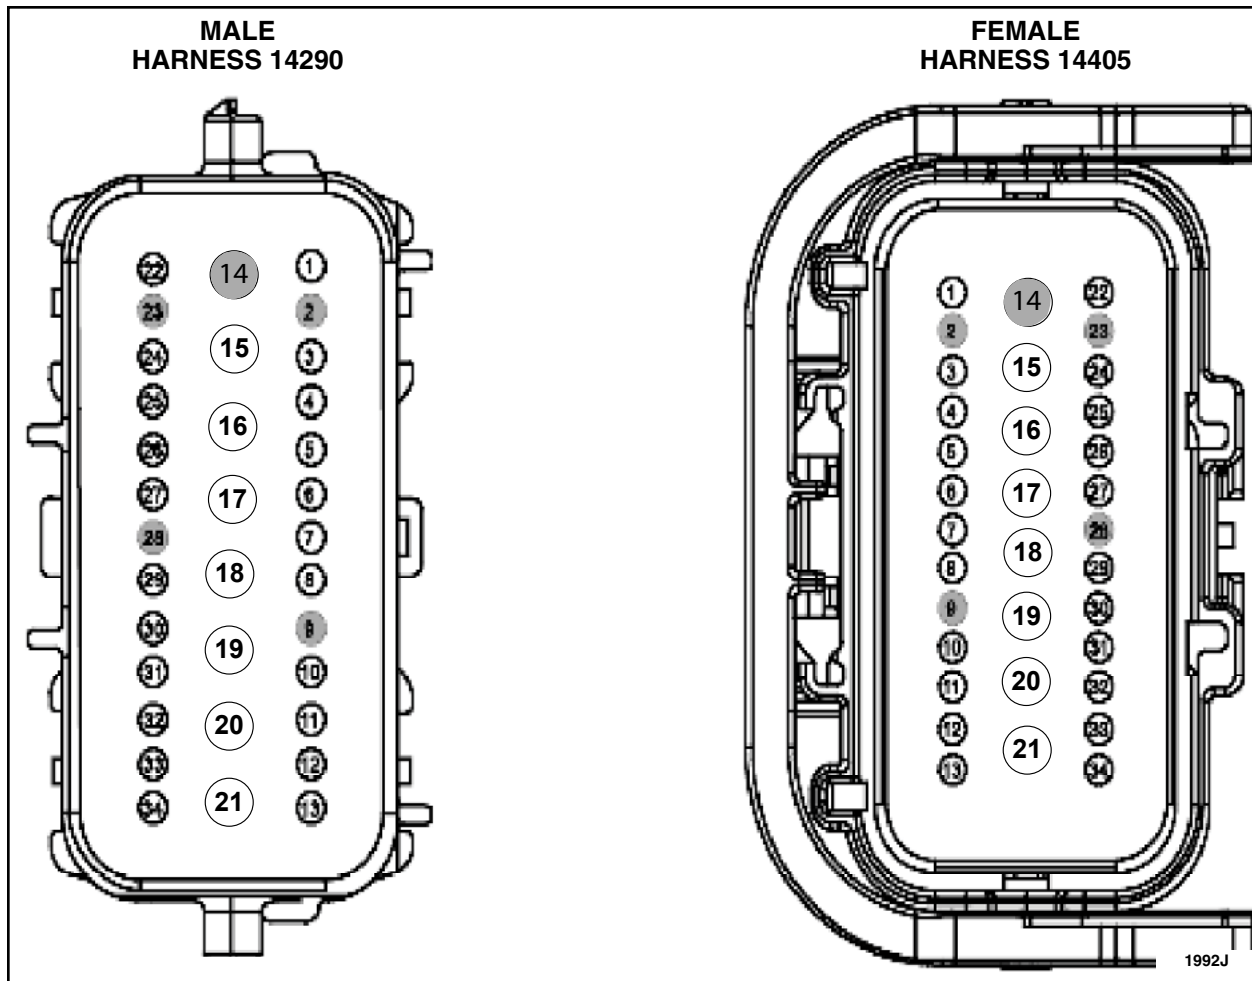
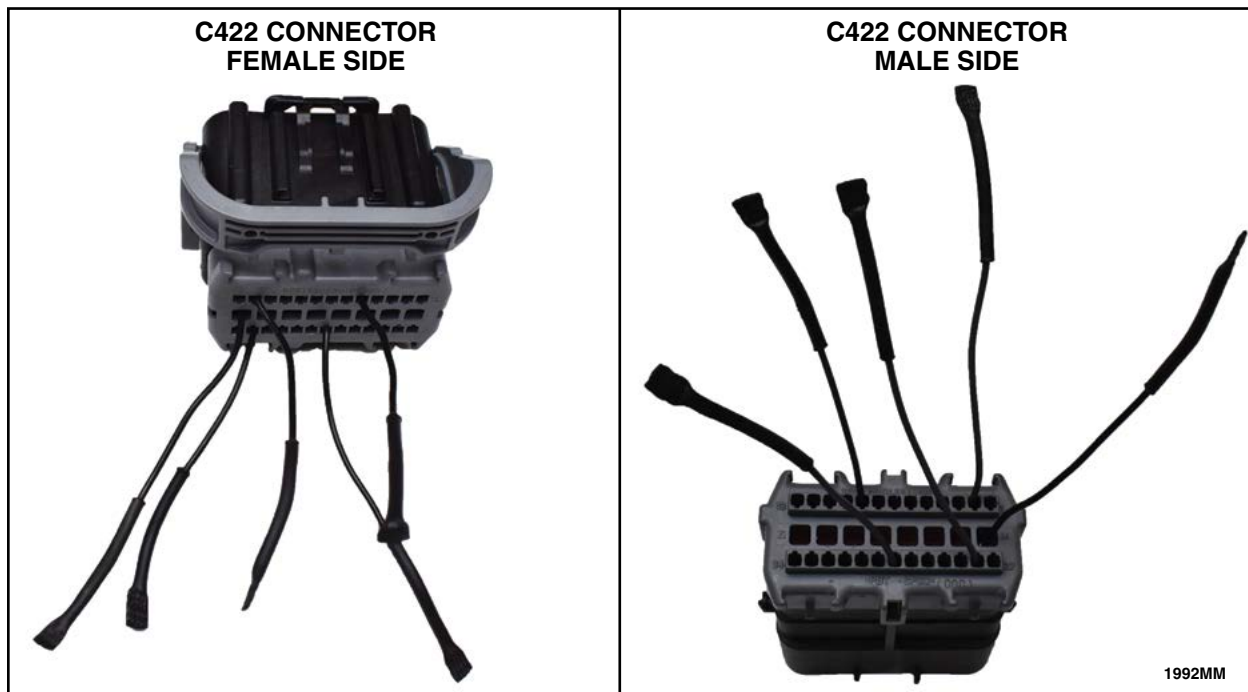

FIGURE 12
FIGURE 21
14. At connector C422, using your fingers pull on the remaining wires in the center row of terminals wires (cavities 14-19 and 21) on both male and female connector sides, checking for any terminals that may be push out of the connector hard shell. See Figures 12, 13 and 14.
- Using Rotunda™ Terminal Release Tool (NUD900-001), release and remove all pin terminals from the *new* C422 pigtail connector **Except** for cavities 2, 9, 14, 23 and 28. See Figures 23-25 and/or 28-30. Refer to Figures 12 and 13 for connector details.
- Measure and cut all five (5) wires, still remaining in the new pigtail connector, to 3 in. (76.2mm) in length.
- Position a heat shrink tube over the end of all five (5) wires. See Figure 21.
- One wire at a time, use a suitable heat gun, such as Rotunda Shielded Flameless Heat Gun with Heat Deflector (NAIAT-R5902), that is equipped with a shrink tubing attachment, to heat the heat shrink tubing until the sealant comes out of both ends, then with a pair of needle nose pliers pinch the end of the heat shrink tube to seal the wire end. See Figure 21.
3. Using Rotunda™ Terminal Release Tool (NUD900-001), release, remove and install each pin terminal one at a time from the original/damaged connector shell into the *new* connector shell. Then reinstall the white pin terminal locking tab. See Figures 12, 13 and 23-25.